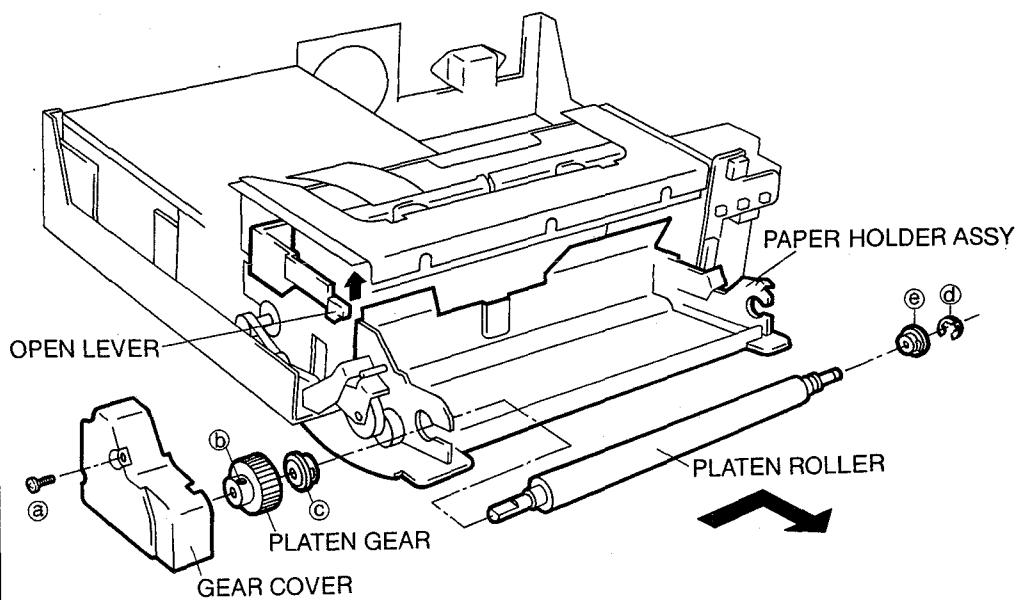

Fig. 1-1
3. Remove one screw (Ⓐ) securing the GEAR COVER shown in Fig. 1-1 to remove the GEAR COVER.
4. Loosen one hex screw (Ⓑ) securing the PLATEN GEAR shown in Fig. 1-1 using the 1.5mm hex wrench to remove the PLATEN GEAR.
5. Remove one BUSH PLATEN (Ⓒ) shown in Fig. 1-1.
6. Move the PLATEN ROLLER in the direction shown by the arrow as shown in Fig. 1-1 to remove it.
7. Remove one RETAINING RING (Ⓓ) and one BUSH PLATEN (Ⓔ) shown in Fig. 1-1.